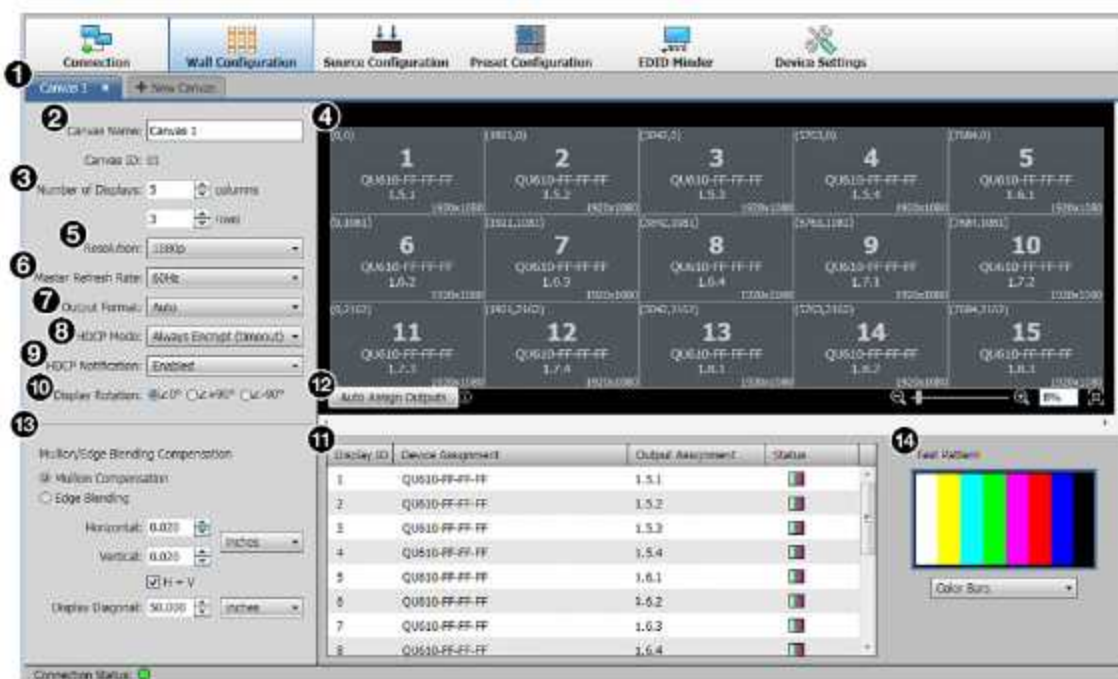

Figure 4. Wall Configuration Window
Click the Wall Configuration button (shown at right) to configure the outputs and to select the output channels on the Quantum Ultra Series device for the videowall. The Wall Configuration window opens, providing a Canvas to set up the wall (see figure 4).
- Name the Canvas.** By default, the first videowall configuration (Canvas) you define is named Canvas 1 (see figure 4, 1). In the Canvas Name field, you can customize the name if desired (2). Each Canvas that is created (a maximum of 10) is assigned an incremented number that appears in the Canvas ID field and is used in SIS commands.
- Select the number of displays.** In the spin boxes labeled Number of Displays (3) select or enter the number of displays for the columns and the rows of the videowall. In the example in figure 4, the wall has five columns by three rows (4).
- Resolution** (see figure 4, 5) – From this drop-down list, select the output resolution for the displays.
- Master Refresh Rate** (6) – From this drop-down list, select the refresh rate for the displays.
- Output format** (7) – From this drop-down list, select the output format (AUTO, DVI RGB 444 or HDMI RGB 444). The default is Auto.
- HDCP Mode** (8) – From this drop-down list, select how to manage HDCP encryption on the outputs. You can select to always encrypt the output (default), to never encrypt the output, or to attempt to encrypt the output for 1 minute, then revert to an unencrypted state (not allowing display of HDCP encrypted sources if authentication with the sink device fails).
- **HDCP Notification** (9) — From this drop-down list, select to enable or disable a green screen notification when the input signal contains HDCP-protected content and the outputs cannot be encrypted.
- **Display Rotation** (see figure 4, 10 on the previous page) — In this panel, select the radio button for the angle at which the displays physically rotate: +90° (90 degrees clockwise), -90° (90 degrees counterclockwise) or 0° (no rotation). The example at right shows a videowall that has four rotated displays.